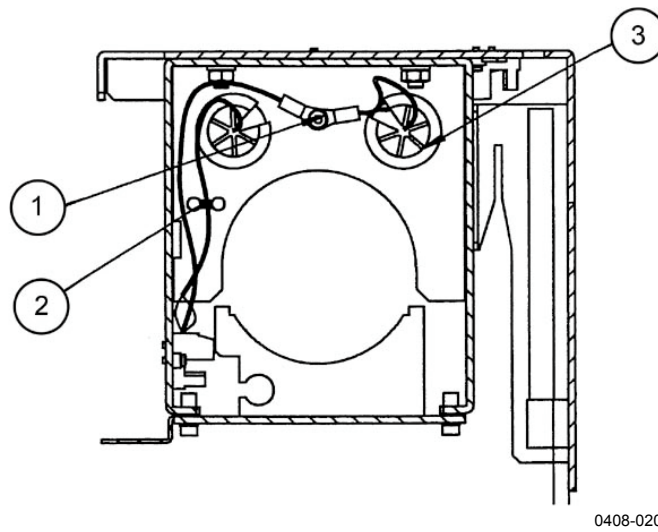

Figure 20 Grounding Wires of the Internal Cable Set (top view)
4. Remove the grounding screw from the back of the optics frame by loosening it and thus disconnecting the two protective grounding terminals attached to it. See Figure 20 on page 110.
The following numbers refer to Figure 20 above: